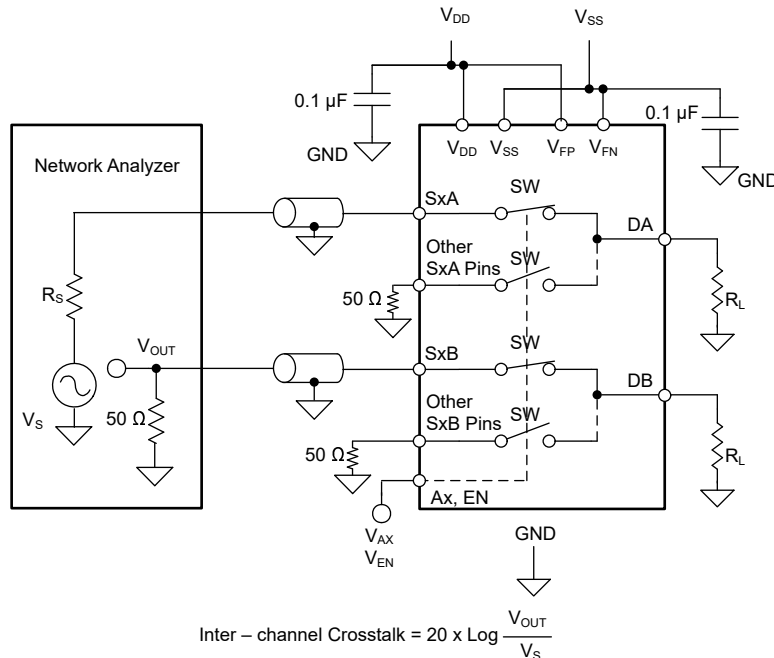

Figure 8-16. Inter-Channel Crosstalk Measurement Setup
2. Inter-channel crosstalk ($X_{TALK(INTER)}$): **Figure 8-16** shows the voltage at the source pin (S_x) of an on-switch input, when a signal is applied at the source pin of an on-switch input in a different channel. Inter-channel crosstalk applies only to the TMUX7349F device.